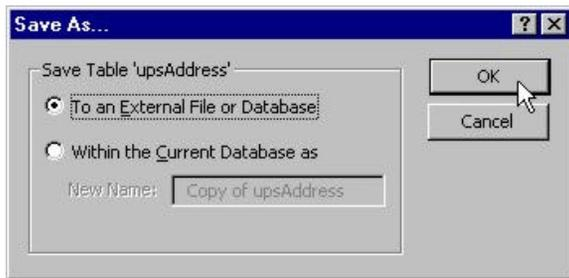

Figure 26: Select how you want to save the table.
- When you select Save As/Export, you will be asked how you want to save the table. You could save a copy of your address data within Exchange.mdb under another name, but it's more likely that you'll want this information outside of Exchange. In this case, choose to save the table to an external file or database and click **OK**. (See Figure 26.)